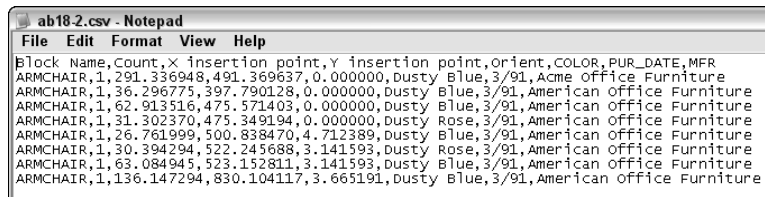

Figure 18-28: The output file that results from extracting the attributes in the office building plan.
13. To view the output file, from the Windows task bar choose Start ⇨ Run. Type **Notepad** and click Run. In Notepad, choose File ⇨ Open and locate the `ab18-02.csv` file in your AutoCAD Bible folder. (Change the Files of Type drop-down list to All Files.) Click Open. It should look like Figure 18-28.